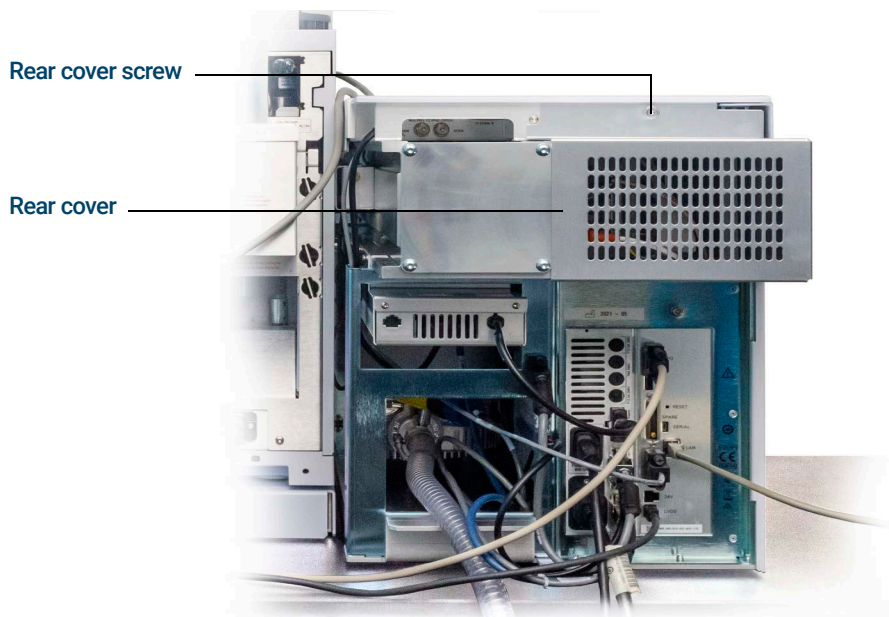

Figure 66. Removing covers
The rear cover should be removed to open the rear analyzer side plate. This is necessary when replacing the electron multiplier horn. If you need to access the rear analyzer chamber, follow these procedures to remove the rear cover. (See Figure 66 on page 207.)
- 1 Loosen the top screw of the rear cover. It is captive so you will not be able to remove it entirely. (See Figure 66 on page 207.)